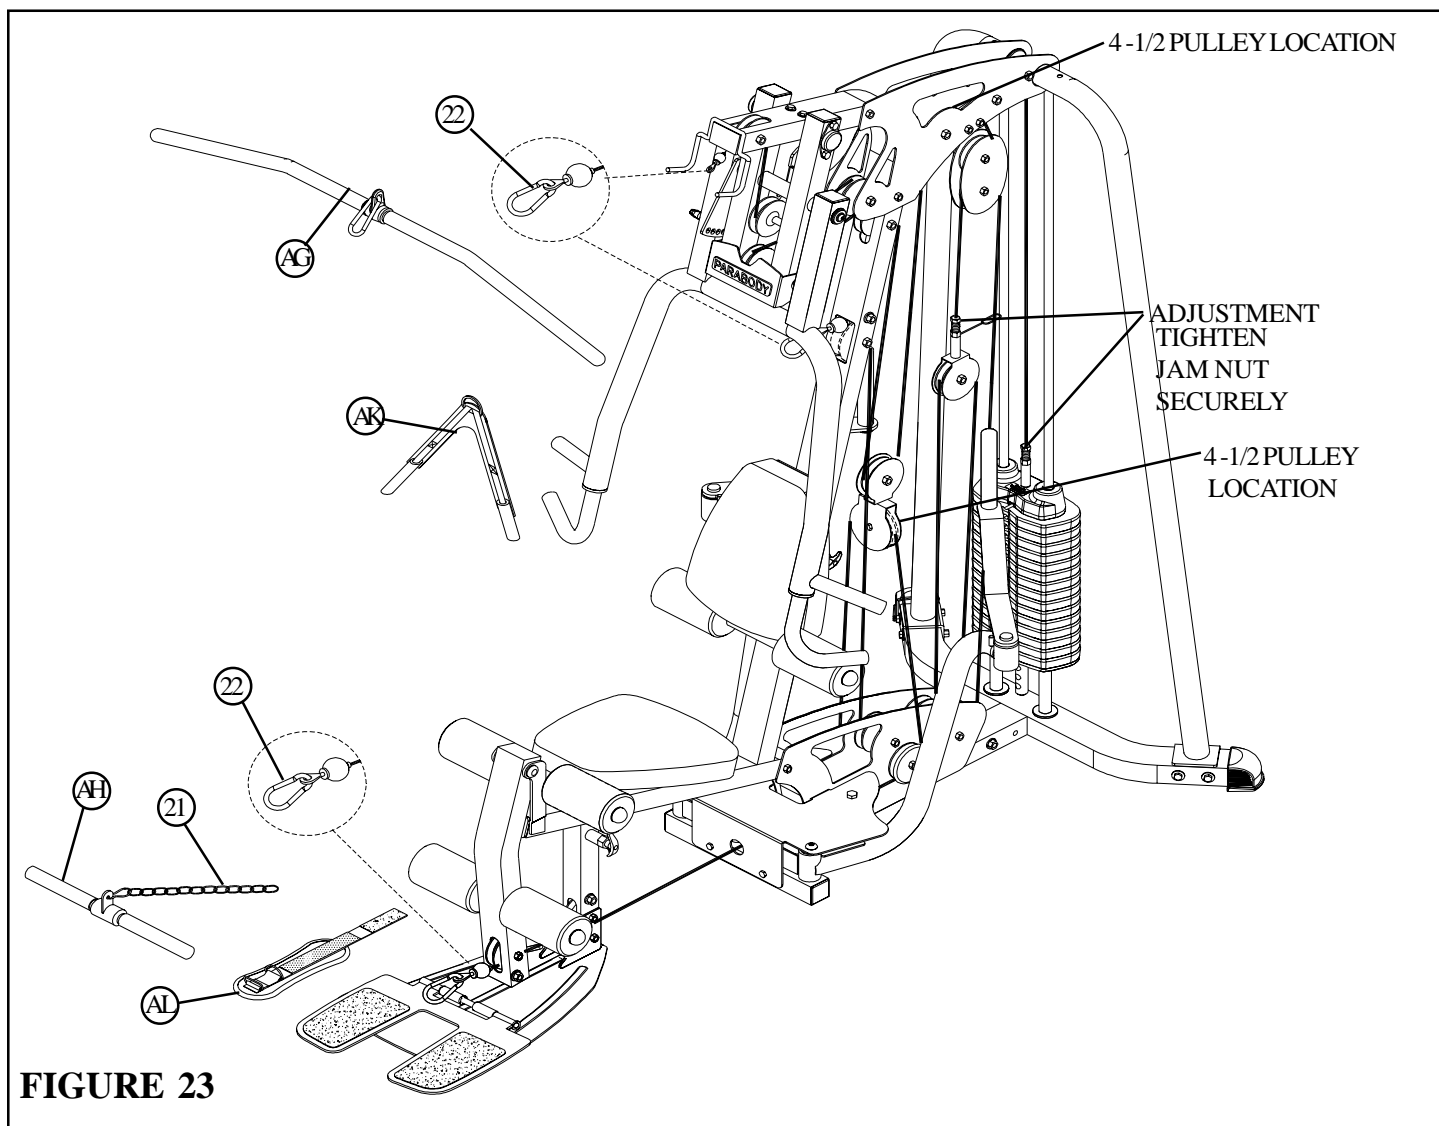

FIGURE 23
- If upon completion of assembly, the HEAD PLATE (AF) does not sit on top of the first WEIGHT PLATE, push the HEAD PLATE (AF) down, insert the WEIGHT SELECTOR PIN and perform several repetitions at the press station. This will relax the cable system and prevent the HEAD PLATE (AF) from lifting up. See FIGURE 23.
- If after completing previous step, the HEAD PLATE (AF) still does not sit on top of the first WEIGHT PLATE or if there is excess slack in the cable system, adjust the threaded end of the LAT CABLE (AM) and ADJUSTABLE GLIDE accordingly and retighten the jam nuts. See figure 23.
- For maximum performance, the HEAD PLATE (AF) should just barely sit on the top WEIGHT PLATE
- Attach the LAT BAR (AG) to the ball end of LAT CABLE (AM) using one SNAP LINK (22) as shown in FIGURE 23.
- Attach the ANKLE STRAP (AL) to the 12 LINK CHAIN (21) using one SNAP LINK (22) as shown in FIGURE 23
- Attach the AB STRAP (AK) to the ball end of LOW CABLE (AN) using one SNAP LINK (22) as shown in FIGURE 23.